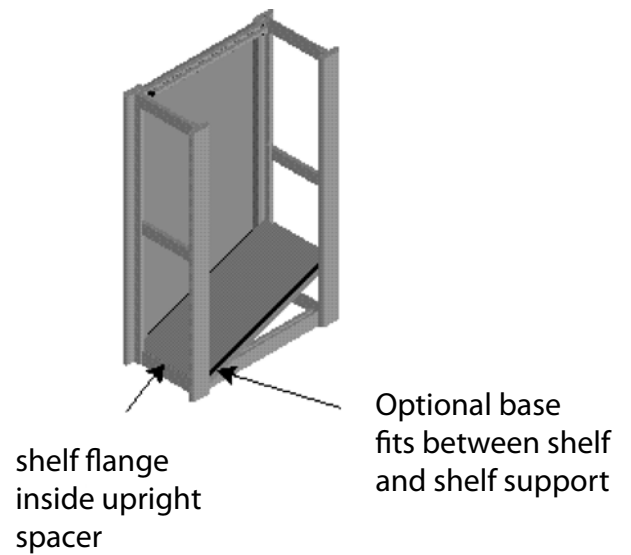

Figure 4
1. Shelves should be tilted in, as shown. Note that end shelf flange is placed inside the upright spacer, or upright closed panel. Fit shelf over bottom shelf supports. Figure 4.